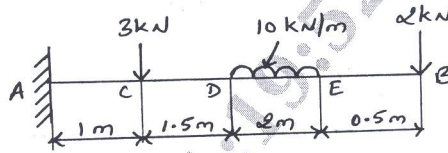

Fig.Q5(b)
b. Draw the shear force and bending moment diagram for the cantilever beam shown in Fig.Q5(b) below.